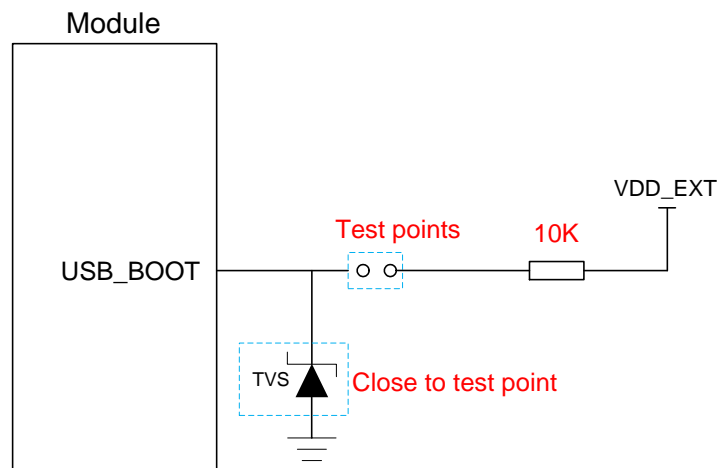

Figure 30: Reference Design of USB_BOOT Interface
3. When using MCU to control the module entering emergency download mode, follow the above timing. Connecting the test points as shown in **Figure 30** can manually force the module to enter download mode.